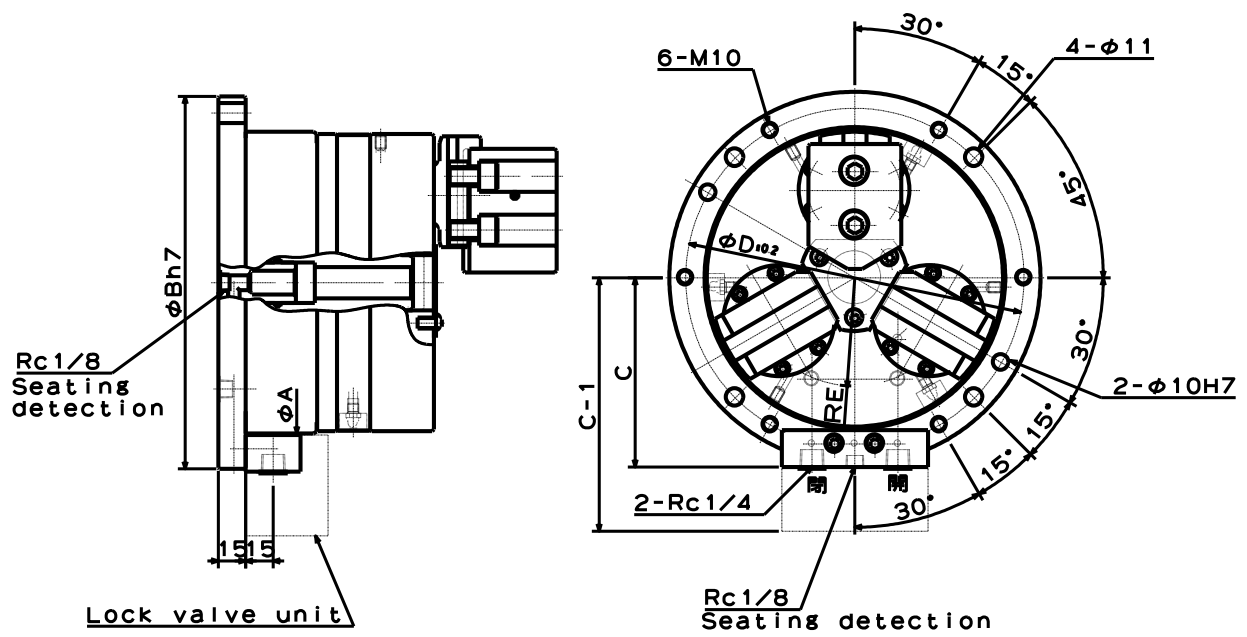

Fig.8-5
- Connect the pipe to the air supply port at the block or work gripper bottom. Blind the port on the side not used. (See Fig.8-5)